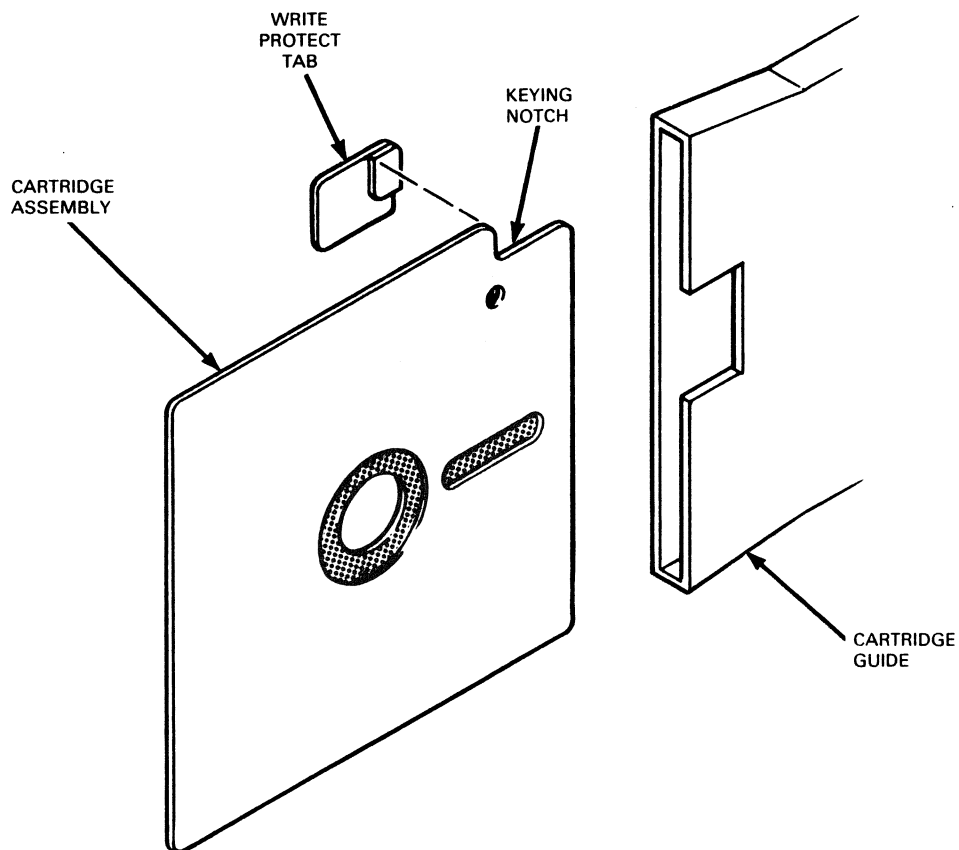

Figure 3-8. Insertion of Disk Cartridge in Guide
all the way into the guide. Do not close the door (See Figure 3-8). Turn the disk drive on (Depress RUN button) before closing the door. This ensures proper registration of the disk. When the disk is in place and the disk drive on, close the door slowly to engage the drive spindle.
3.2.2.4 Disk Write Protection. To inhibit writing on any disk, remove the covering on the plastic write-protect tab, and slide the tab into the keying notch of the vinyl envelope containing the disk (Figure 3-8). The tab is removable. With the tab in position, and the disk in the drive unit, the raised portion of the tab pushes an actuator that closes the write-protect switch, and the drive unit does not write. To restore the full read/write operation, remove the write protect tab from the disk.